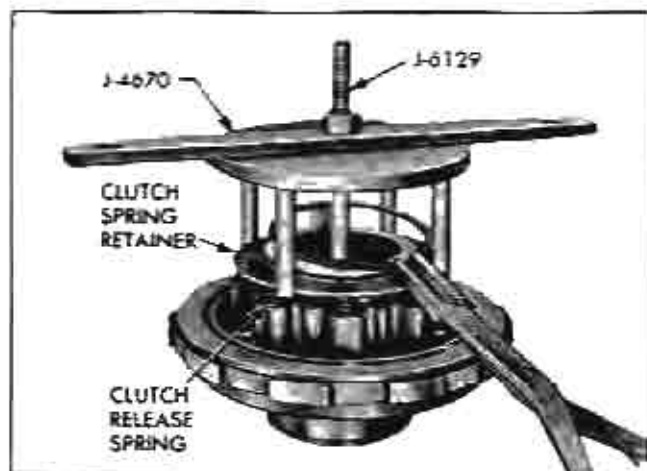

Fig. 92 Installing Rear Clutch Release Spring Retainer Snap Ring
e. Place spring retainer on springs with tangs facing up. Compress springs using tools J-4670 and J-6129 (Fig. 92).
f. Install release spring retainer snap ring (Fig. 92). Remove compressor tools.